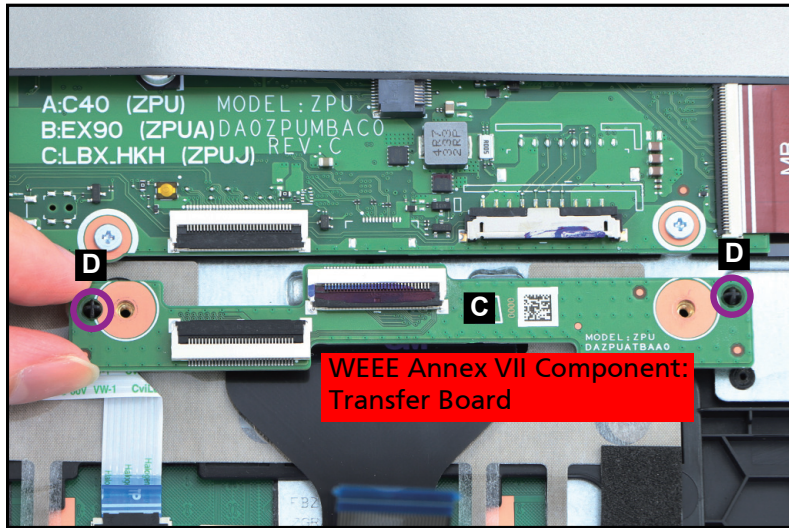

Figure 1-14. Transfer Board Removal
4. Release the transfer board (C) from the guide pins (D) on the top assembly (Figure 1-14). Then remove the transfer board.